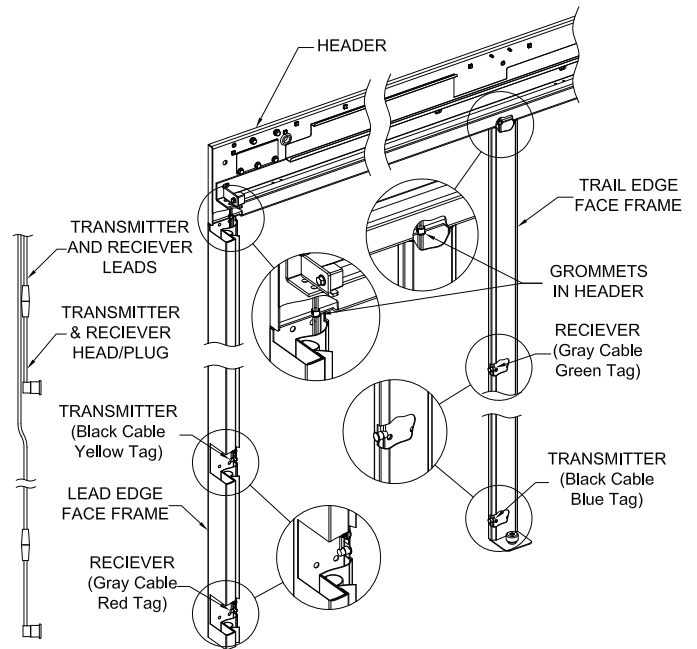
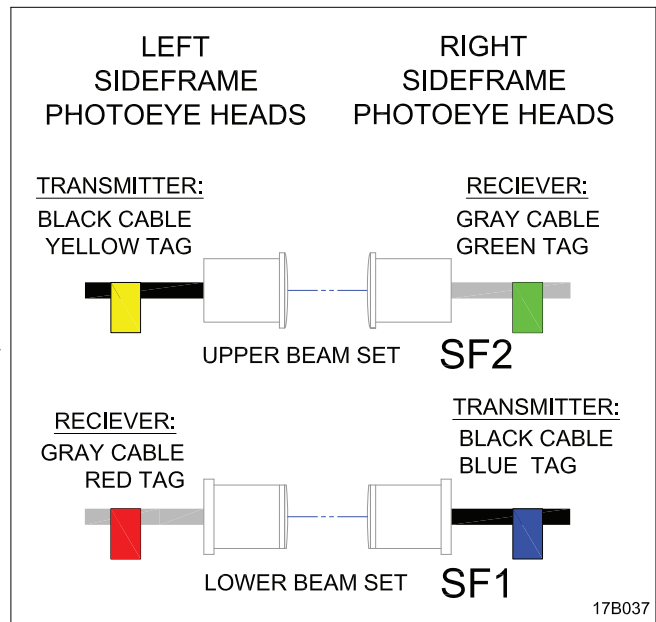

Figure 19: Photoeye Wire Routing
Figure 20: Photoeye Wire Color Codes
2. Locate photoeye cables on back of header and identify each pair of wires by its location near the grommets in the bottom edge of the header (Figure 19). You will be connecting these wires to one emitter and receiver on each side frame. Remove the emitter and receiver heads from each wire for installation into face frames. Route the cables in pairs through the grommets in the header as shown.
- Mount photoeye sensors as shown in Figure 19. Pay attention to colors of photoeye wires (Figure 20).
- Connect the photoeye emitter and receiver leads to the same color wires from the header. The wires are color-coded black or gray. Emitters are gray and receivers are black. Match wire colors and install the photoeyes as shown in Figure 20.